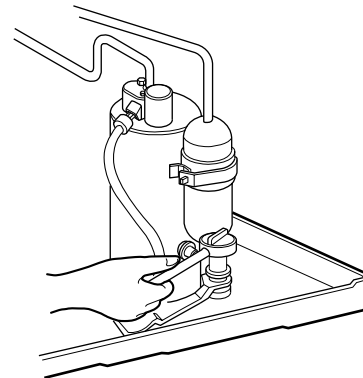

FIG. 34
5. Remove the 3 nuts and the 3 washers which fasten the compressor. (See Fig. 34)